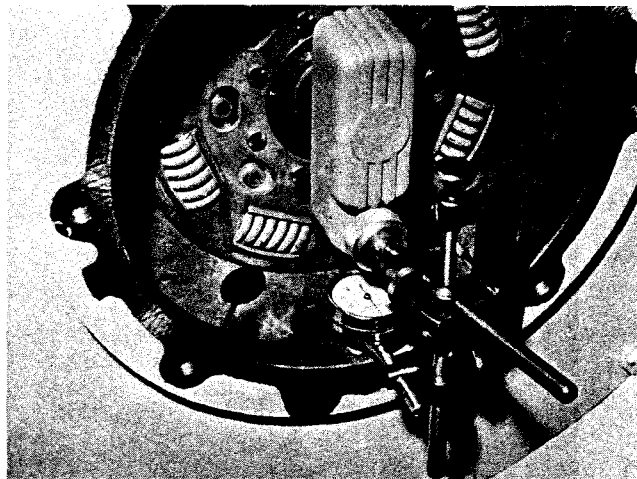

Fig. 5-13, (V11477). Checking adapter plate bore
5. Use a magnetic base with a dial indicator to check adapter plate bore run-out. Fig. 5-13. It should be within TIR of 0.010 inch [0.25 mm].